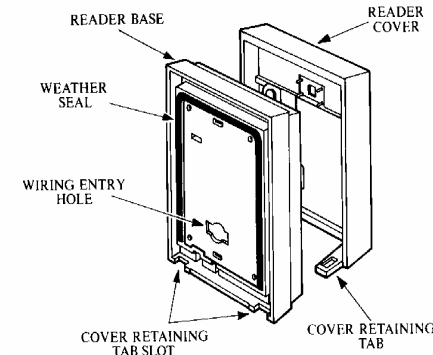

Figure 2
- 3 For outdoor applications, use a suitable weather-proof back box, or handy box, and install the weather seal (provided) on the back of the readers' base by pushing it securely and evenly into the "U" shaped recess. See figure 2.